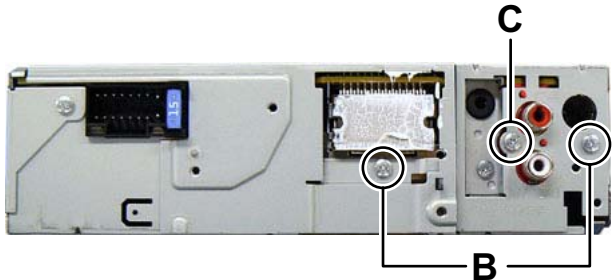

Fig.2
- (2) Remove the two screws **B** and one screw **C** attaching the Bottom chassis. (See Fig.2)
- (3) Slide to backward and then remove the Bottom chassis.
- (3) Solder the short land sections on the pickup. (See Fig.2.)
If the card wire is disconnected without attaching solder, the pickup may be destroyed by static electricity. (See Fig.2.)